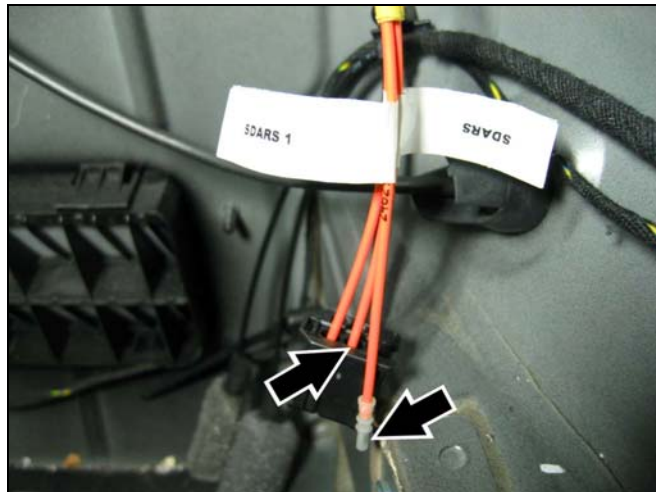

Figure 16
2. At the SDAR control module (Figure 16) in the right well of the trunk, configure the MOST ring according to Figure 39 (see below).